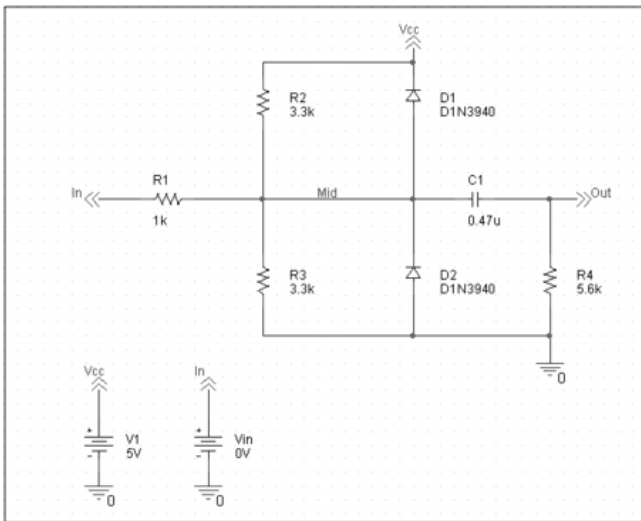

Figure 2-1 Diode clipper circuit.
This section describes how to use OrCAD Capture to create the simple diode clipper circuit shown in Figure 2-1.
6. Move the pointer to the correct position on the schematic page (see Figure 2-1) and click to place the first part.
- ☐ You will change part names and values that do not match those shown in Figure 2-1 later in this section.
2. Follow similar steps as described for the diodes to place the parts listed below, according to Figure 2-1. The part names you need to type in the Part name text box of the Place Part dialog box are shown in parentheses:
- ☐ resistors (R)
- ☐ capacitor (C)
5. Place the off-page connector parts according to Figure 2-1.
3. Place the 0 ground part from `SOURCE.OLB` as shown in Figure 2-1.
6. Continue connecting parts until the circuit is wired as shown in Figure 2-1.
Label the off-page connectors as shown in Figure 2-1.